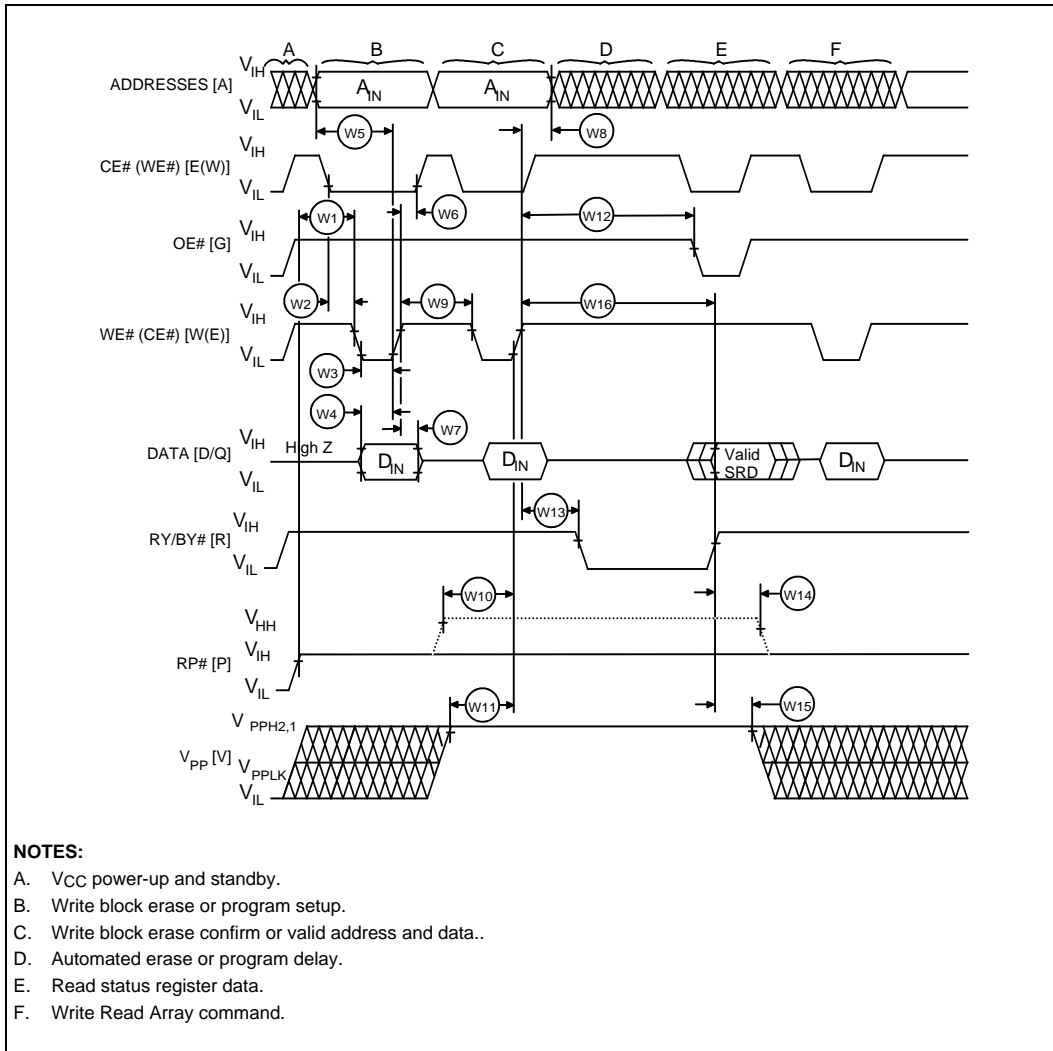

Figure 18. AC Waveform for Write Operations
5. Reference the AC waveform for write operations Figure 18.